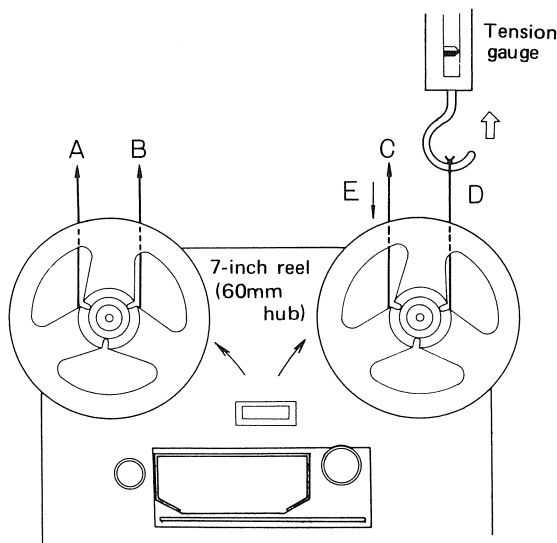

Fig. 7
2. Set the tape deck in the vertical position, and operate in the PLAYBACK mode at 19cm/s (7-1/2ips). Measure the back tension of the supply reel base by pulling the tension gauge in direction B as shown in Fig. 7.
2. Set the tape deck in the vertical position, and operate in the PLAYBACK mode at 19cm/s (7-1/2 ips). Measure the take-up torque of the take-up reel base with the tension gauge in direction E, Fig. 7. Ensure that you allow no slack in the thread as it is being taken up.
1. Set the tape deck in the vertical position and operate in the FAST FORWARD mode. Measure the back tension of the supply reel base in direction B, Fig. 7.